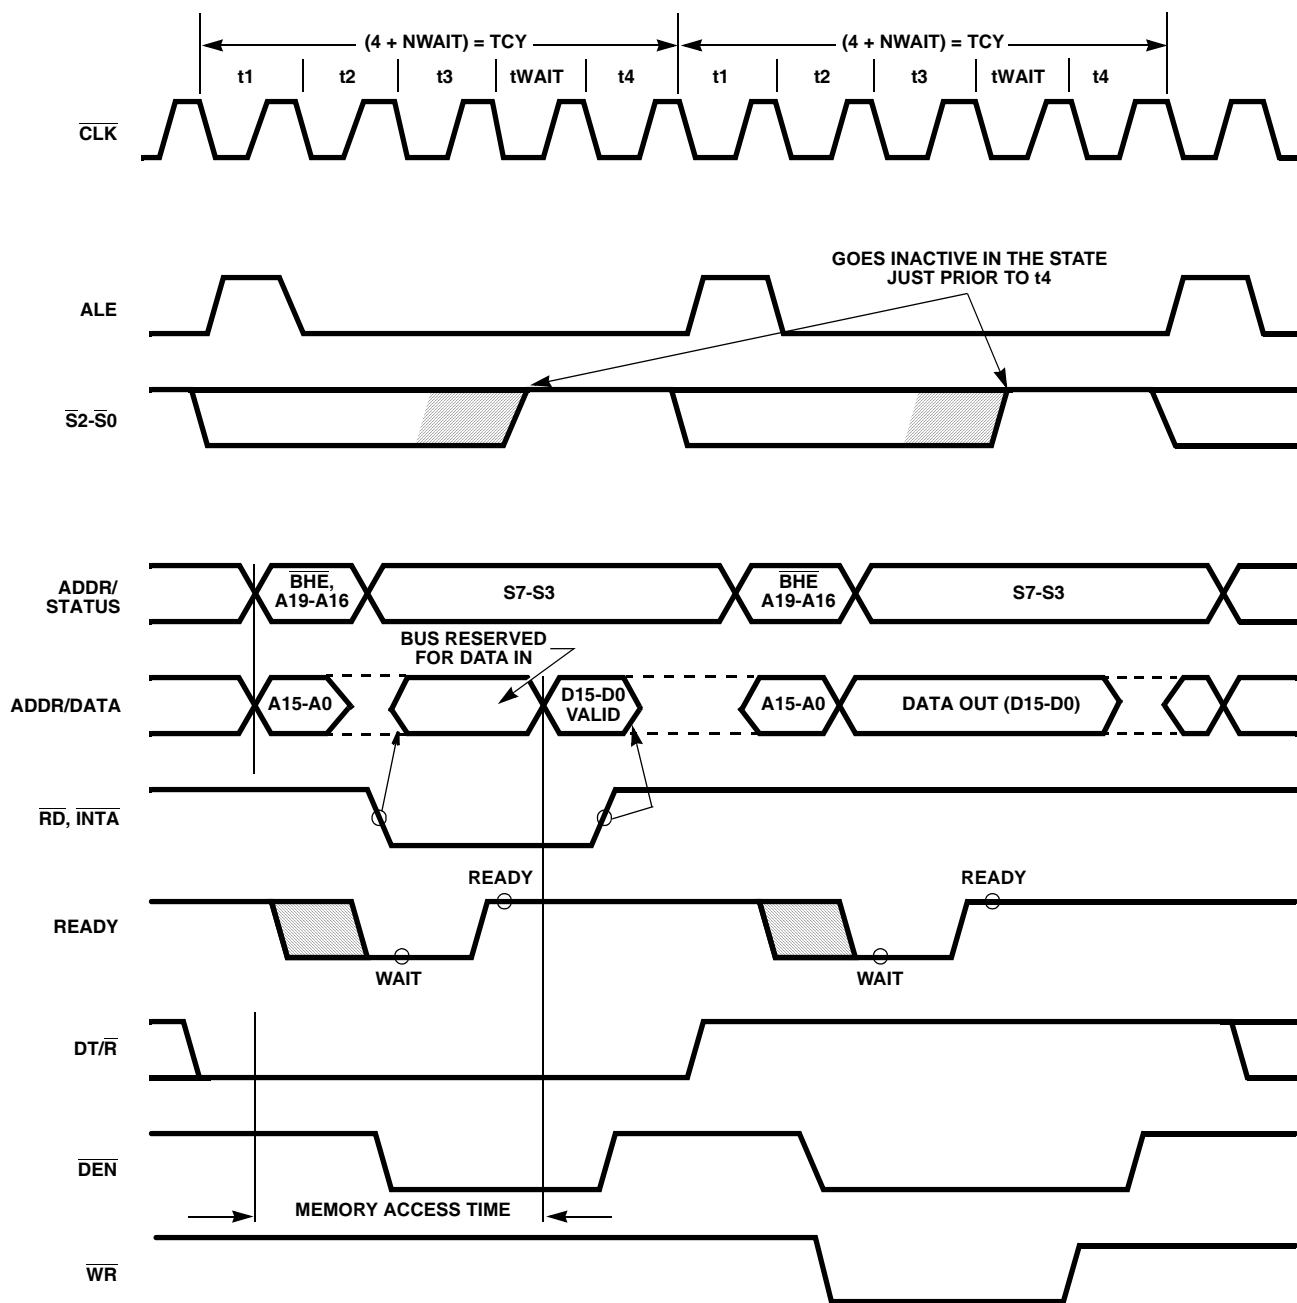
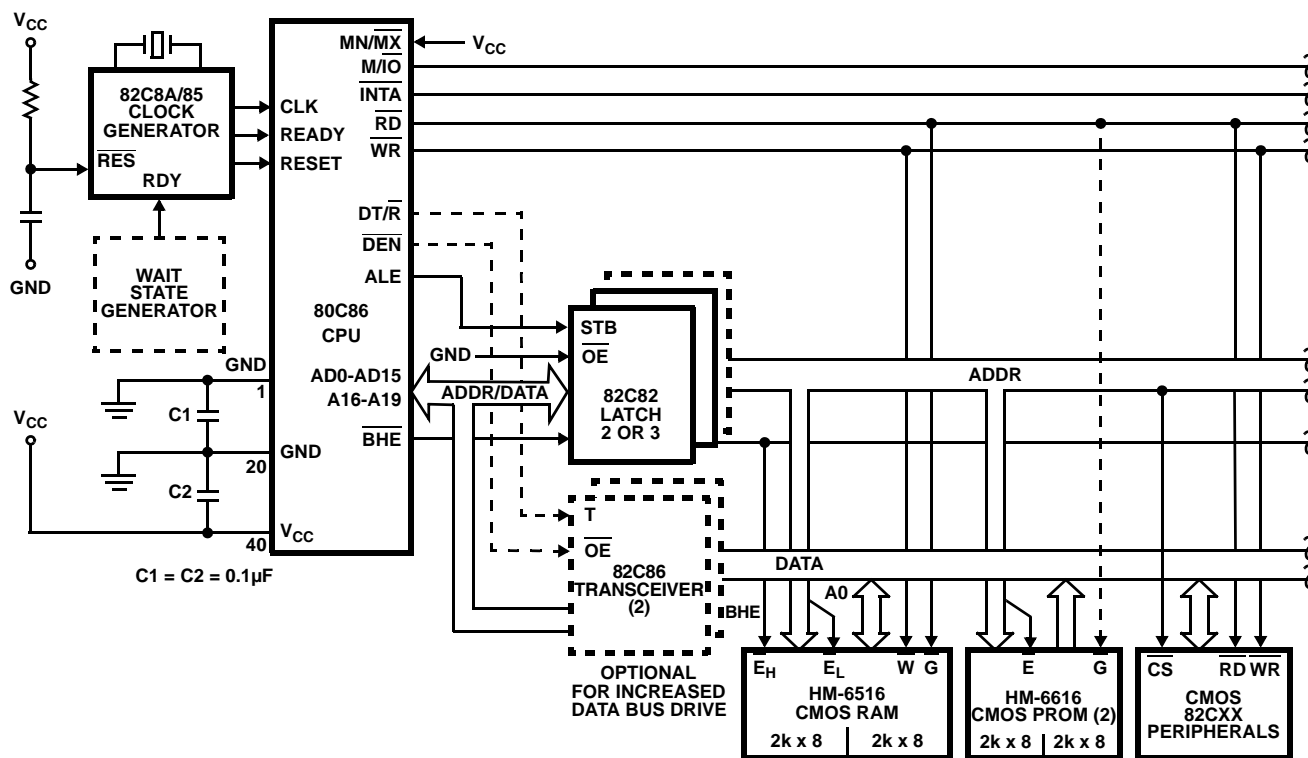

FIGURE 3. BASIC SYSTEM TIMING
FIGURE 6A. MINIMUM MODE 80C86 TYPICAL CONFIGURATION
The demultiplexed mode requires two 82C82 latches (for 64k addressability) or three 82C82 latches (for a full megabyte of addressing). An 82C86 or 82C87 transceiver can also be used if data bus buffering is required (see Figure 6A.) The 80C86 provides  $\overline{DEN}$  and DT/R to control the transceiver, and ALE to latch the addresses. This configuration of the minimum mode provides the standard demultiplexed bus structure with heavy bus buffering and relaxed bus timing requirements.
Each processor bus cycle consists of at least 4 CLK cycles. These are referred to as t1, t2, t3 and t4 (see Figure 3). The address is emitted from the processor during t1 and data transfer occurs on the bus during t3 and t4. t2 is used primarily for changing the direction of the bus during read operations. In the event that a "NOT READY" indication is given by the addressed device, "Wait" states (tW) are inserted between t3 and t4. Each inserted wait state is the same duration as a CLK cycle. Periods can occur between 80C86 driven bus cycles. These are referred to as idle" states (TI) or inactive CLK cycles. The processor uses these cycles for internal housekeeping and processing.
Typical system configurations for the processor operating in minimum mode and in maximum mode are shown in Figures 6A and 6B, respectively. In minimum mode, the MN/MX pin is strapped to VCC and the processor emits bus control signals (e.g.  $\overline{RD}$ ,  $\overline{WR}$ , etc.) directly. In maximum mode, the MN/MX pin is strapped to GND and the processor emits coded status information which the 82C88 bus controller uses to generate MULTIBUS compatible bus control signals. Figure 3 shows the signal timing relationships.